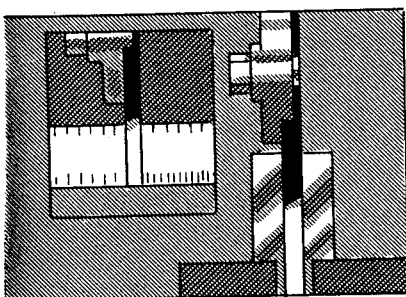

FIG. 430
4. Manipulate the tool and work until the top surface of the work can be used to set the tool square (Fig. 430). A small square, the edge of a scale, or a small square block may be used to set the tool square with the top surface of the work. (Refer to page 172 for setting the tool square.)